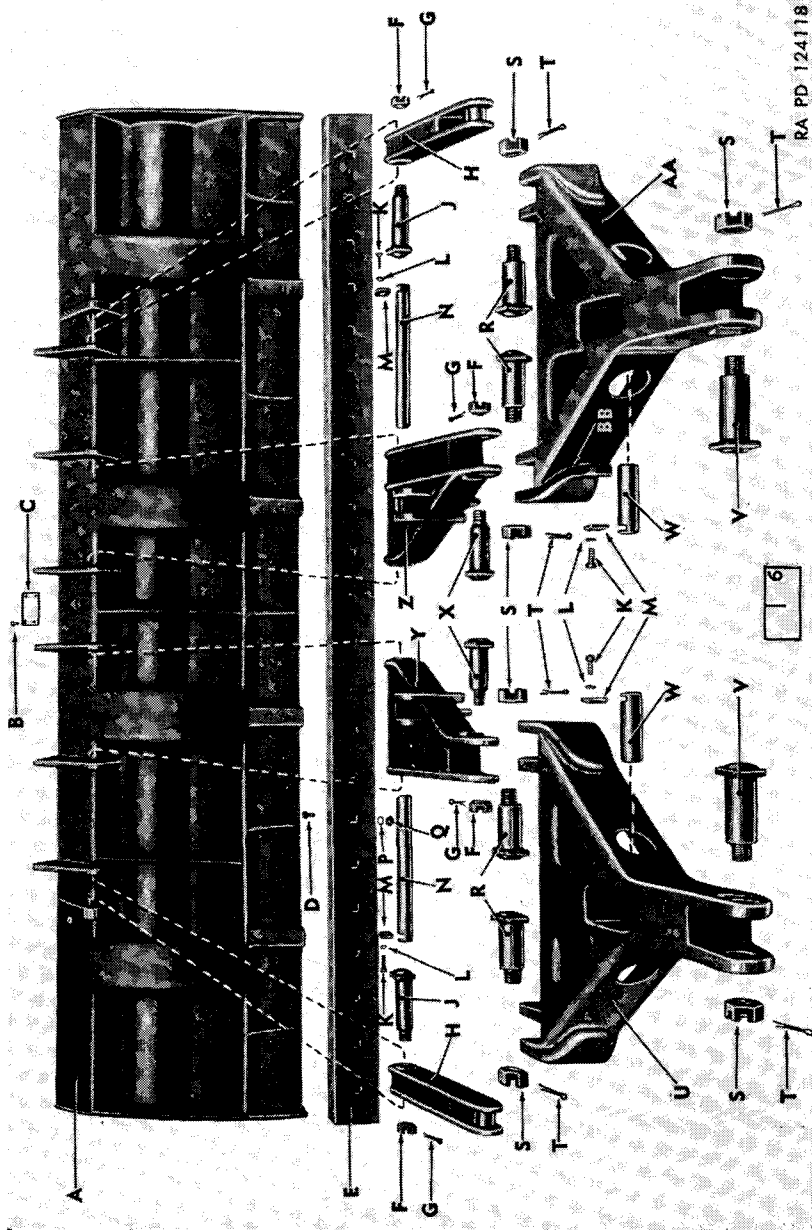

Figure 49. Moldboard, cutting edge, tilt arms, and push beams—exploded view.
b. Remove the 24 plow bolts, lock washers, and nuts (fig. 49) which attach the cutting edge to the moldboard. Lift the cutting edge from the moldboard, using a sling.
b. Position the cutting edge on the rear bottom of the moldboard, with the blade portion of the cutting edge down, and secure it in place with 24 plow bolts, lock washers, and nuts (fig. 49).